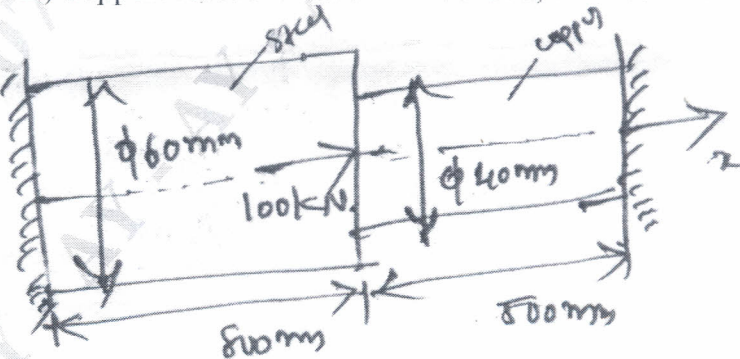

Fig Q4 (20 Marks)
- 4 For the axially loaded bar shown in Fig.Q4. Determine: i) Nodal displacement